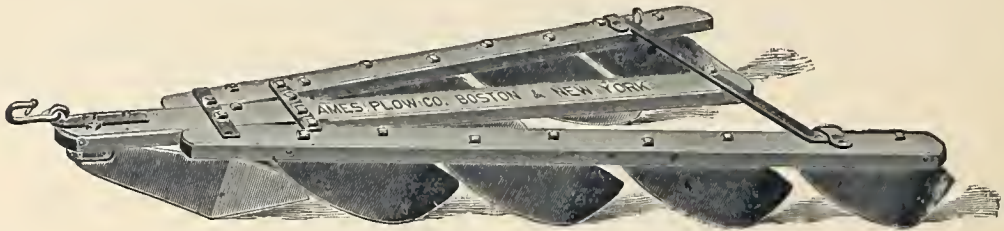

Fig. B 331.—Shares Improved Harrow with Steel Teeth.
*The Shares Improved Harrow*, represented by *Fig. B 331*, is the most perfect of all implements for pulverizing the freshly inverted surface of sward-land to a depth two or three times as great as the common harrow can effect. The teeth, being sharp, flat blades, cut with great efficiency; and, as they slope like a sled-runner, they